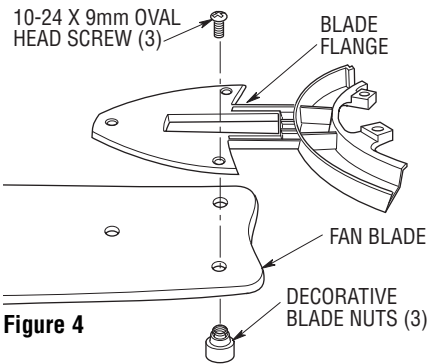

Figure 4
- 1. Mount the fan blades to the blade flanges using three 10-24 x 9mm oval head screws and three decorative blade nuts (supplied) (Figure 4).